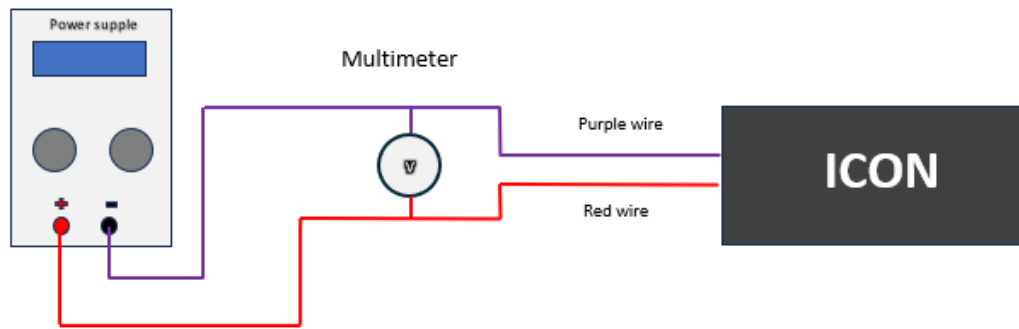

Fig. 1 Connection Diagram
3. Assemble the connection circuit according to "Fig.1 Connection Diagram".